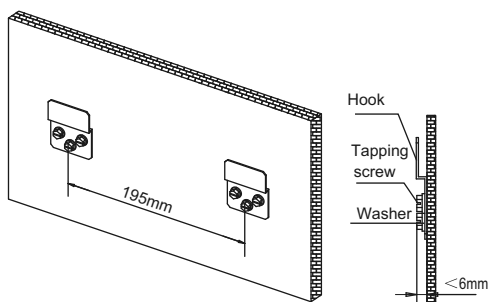

Fig.43-4
- Fix the hook with tapping screw onto the wall. (Refer to Fig.43-4)